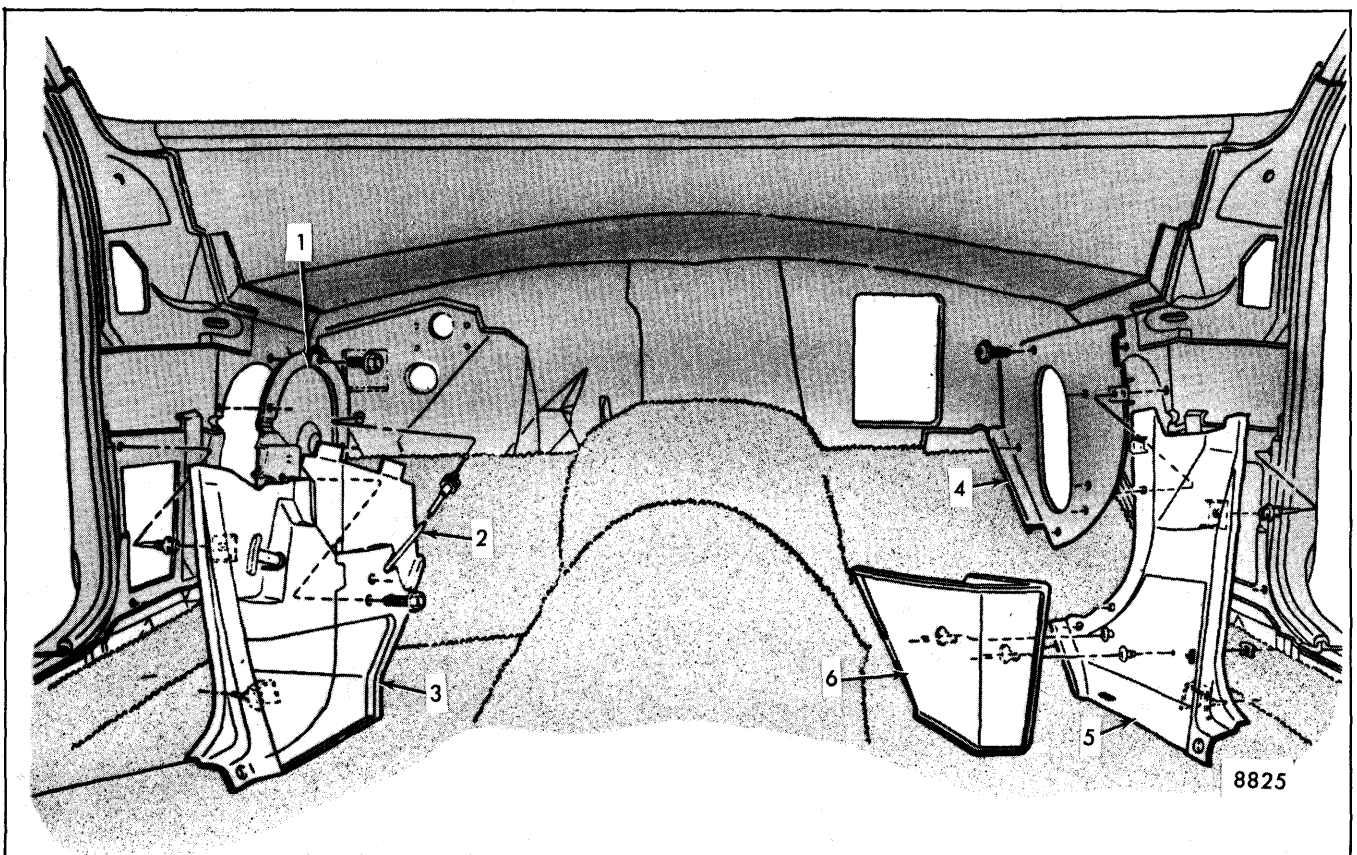

Fig. 4-1-Front End Component Identification
Figure 4-1 identifies interior front end components as installed on this style.
The left side shroud panel consists of a trim panel and hood release cable assembly (items 2 and 3, Fig. 4-1). The cable must be removed as an assembly during shroud side trim panel removal.
The right side shroud panel consists of a side duct panel and door assembly ("4", Fig. 4-1), a rear shroud side trim panel ("5", Fig. 4-1), and a litter container ("6", Fig. 4-1).